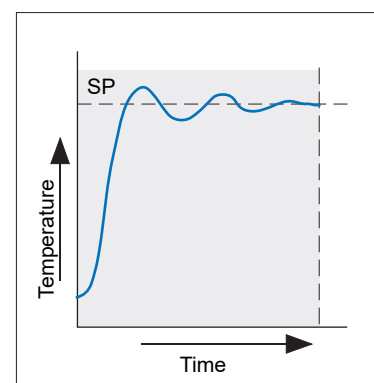

Figure 67 Proportional + Integral Control
The proportional band (PB) delivers an output which is proportional to the size of the error signal. It is the range over which the output power is continuously adjustable in a linear fashion from 0% to 100% (for a heat only controller). Below the proportional band the output is full on (100%), above the proportional band the output is full off (0%) as shown in Figure 67.
Figure 67 shows proportional plus integral action.